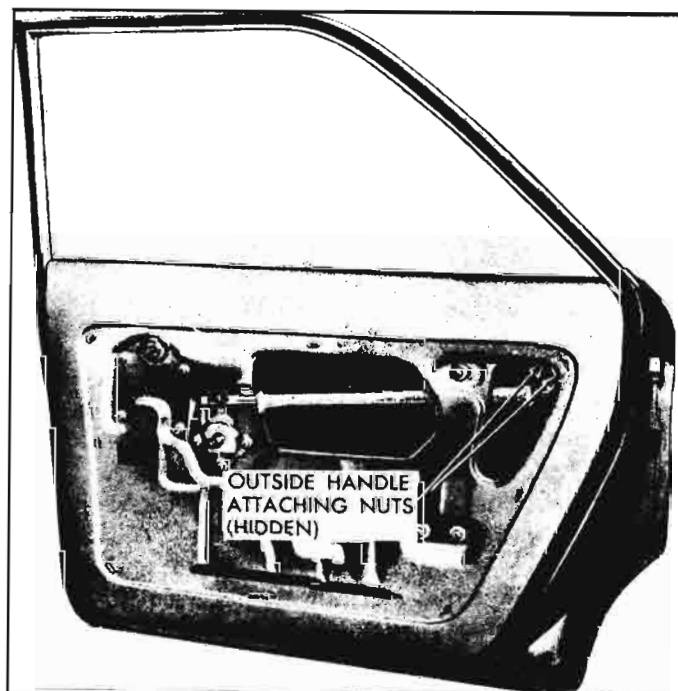

Fig. 10-68—Rear Door Outside Handle Attaching Nut Location
1. Raise door window. Remove door trim assembly and detach upper rear corner of inner panel water deflector sufficiently to gain access to door outside handle attaching nuts (fig. 10-68).